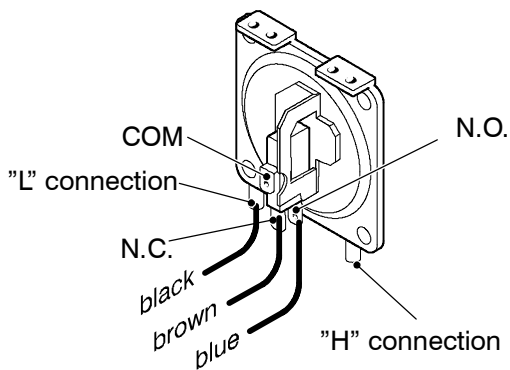
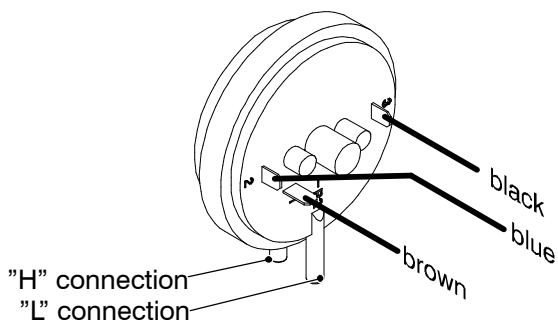
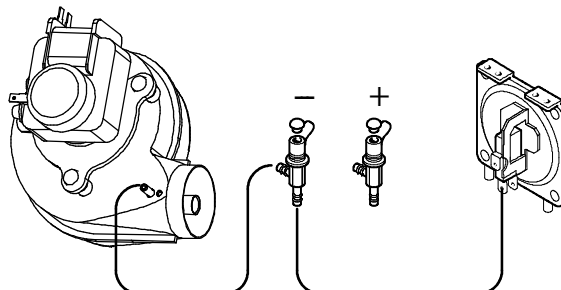

Fig. 69a
Fig. 69b
Fig. 72
- 2 Disconnect the wires and check the electrical resistance between the connections of the Air pressure switch. Refer to the Fig. 69a or b in accordance with the type of air pressure switch used.
Warning: to correctly connect the venturi device to the Air pressure switch, refer to Fig. 72.
Warning: to correctly connect the Air pressure switch, refer to Fig. 72 and Fig. 69a or Fig. 69b for the correct wiring.